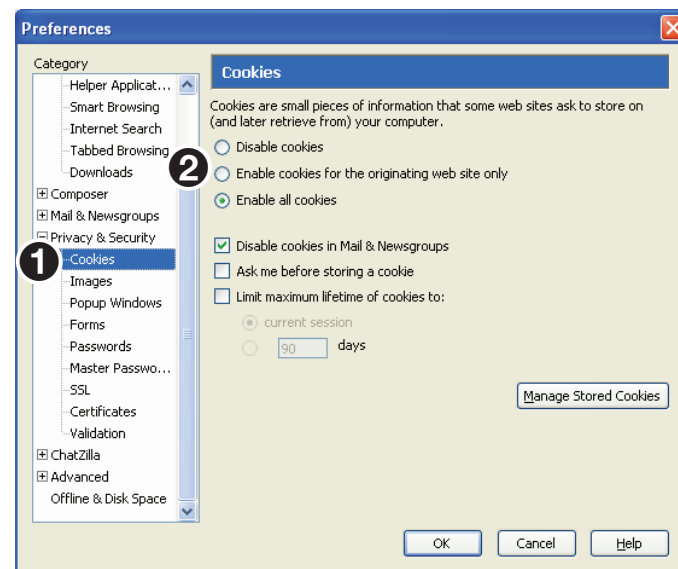

Figure 188. Cookie Preferences
The **Preferences** dialog box opens (see figure 188).
2. To enable cookies, go to the **Privacy & Security** category and choose **Cookies** (see figure 188, 1).